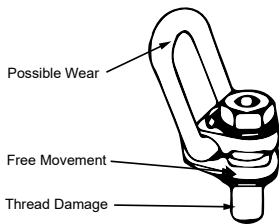

Figure 3
- Regularly inspect Lifting Point parts (Fig. 3).